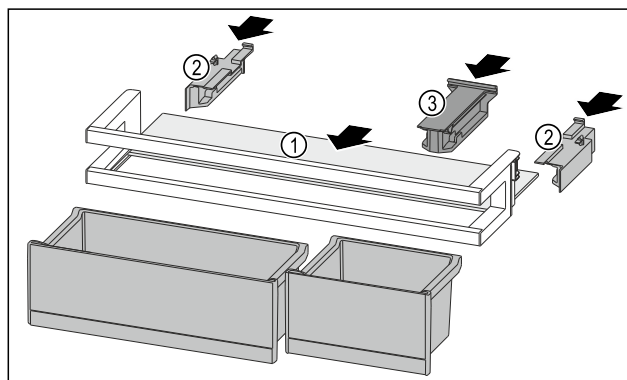

Fig. 179
- ▶ Push the shelf Fig. 179 (1) into the side recesses.
- ▶ Insert the side parts Fig. 179 (2).
- ▶ Insert the holding part Fig. 179 (3).